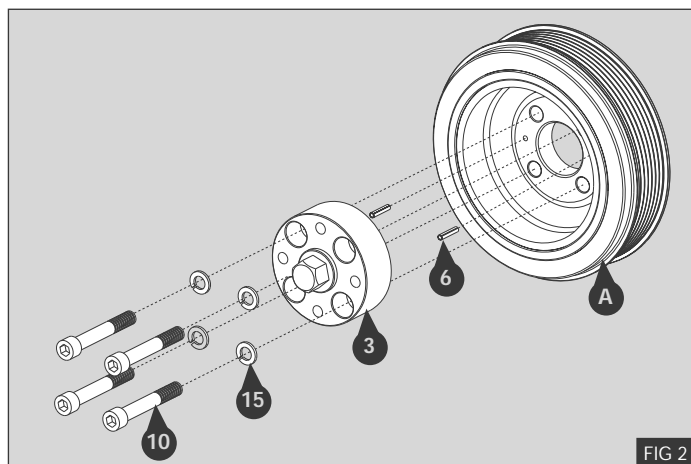

FIG 2
1. Insert the two roll pins Ⓔ completely into the original holes in the crank pulley - Fig 2
2. Fit the drive pulley spacer Ⓓ onto the roll pins Ⓔ and crank pulley Ⓐ - Fig 2.
3. Refit the crank pulley Ⓐ and drive pulley spacer Ⓓ using bolts Ⓙ with spring washers 15 - Fig 2
4. Torque bolts Ⓙ to 30Nm / 22Lb ft - Fig 2